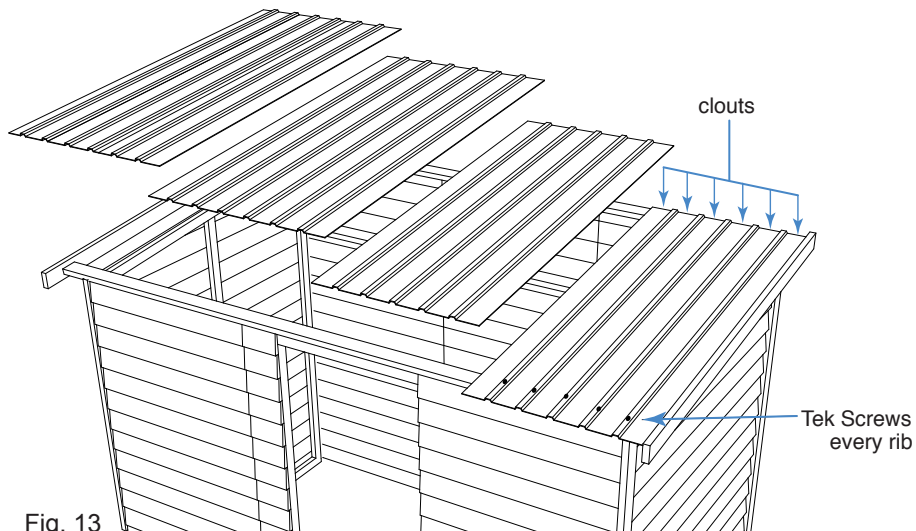

Fig. 13
**Note:** these clouds are fixed through each “pan” of the roof sheet. (See Fig 13).